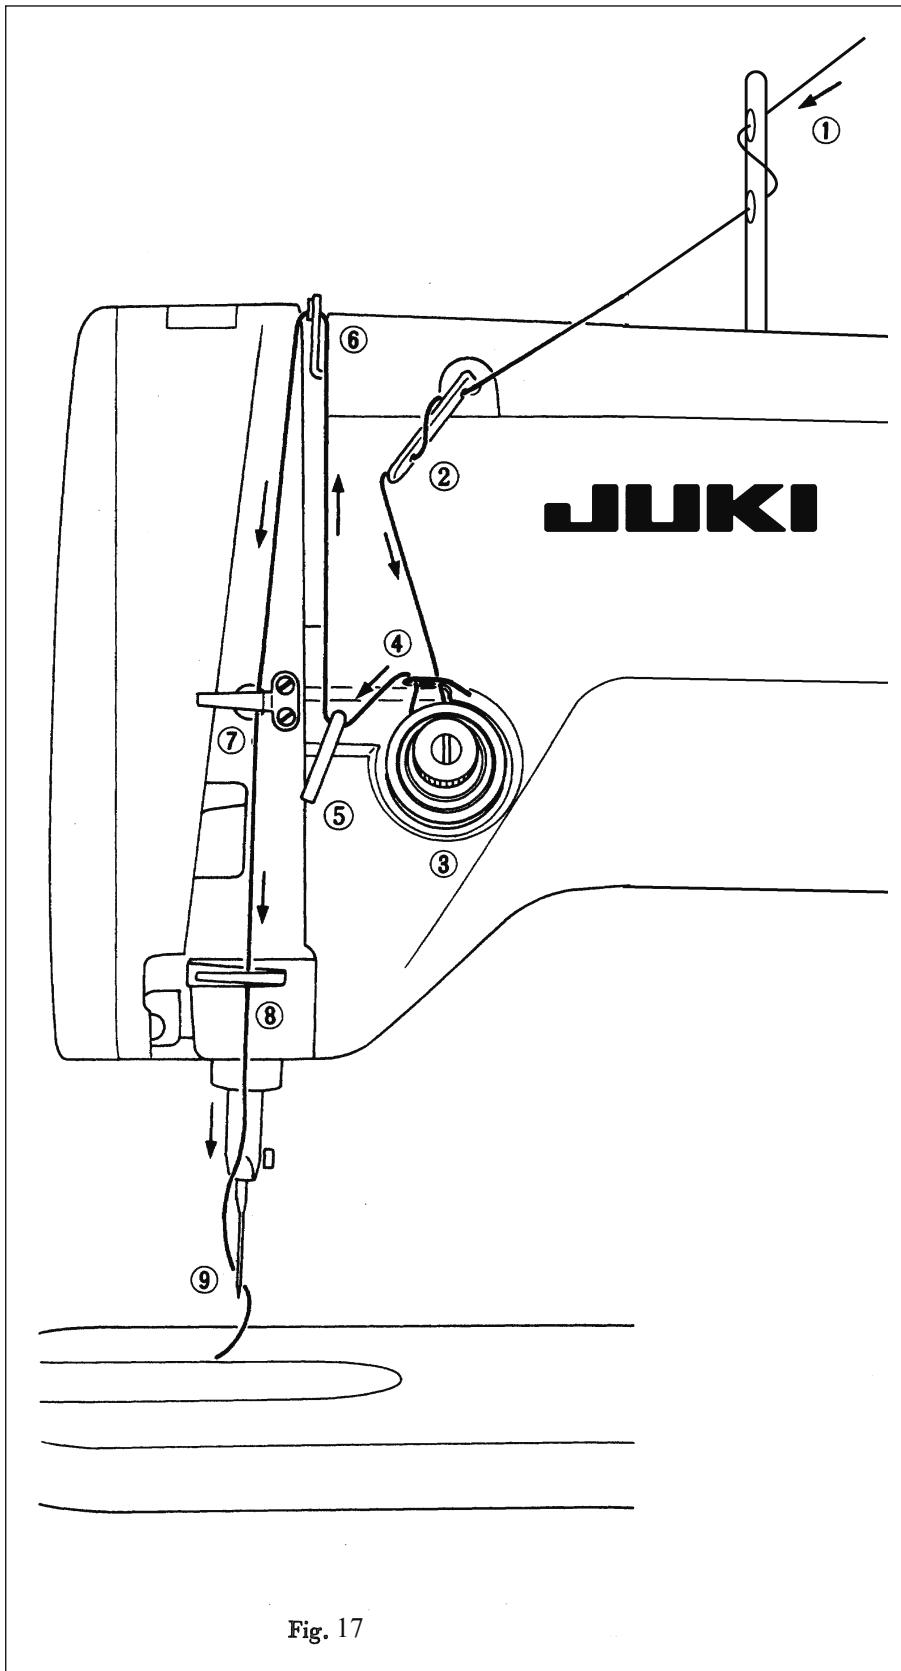

Fig. 17
Refer to Fig. 17 for the order of passing the needle thread. Start from the needle thread guide pin ①, to the needle eye ⑨ in order.
- ② Three-hole thread eyelet
- ③ Tension disc
- ④ Take-up spring
- ⑤ Tension post thread guide
- ⑥ Take-up lever
- ⑦ Side plate thread guide
- ⑧ Frame thread guide, lower
- ⑨ Needle eye